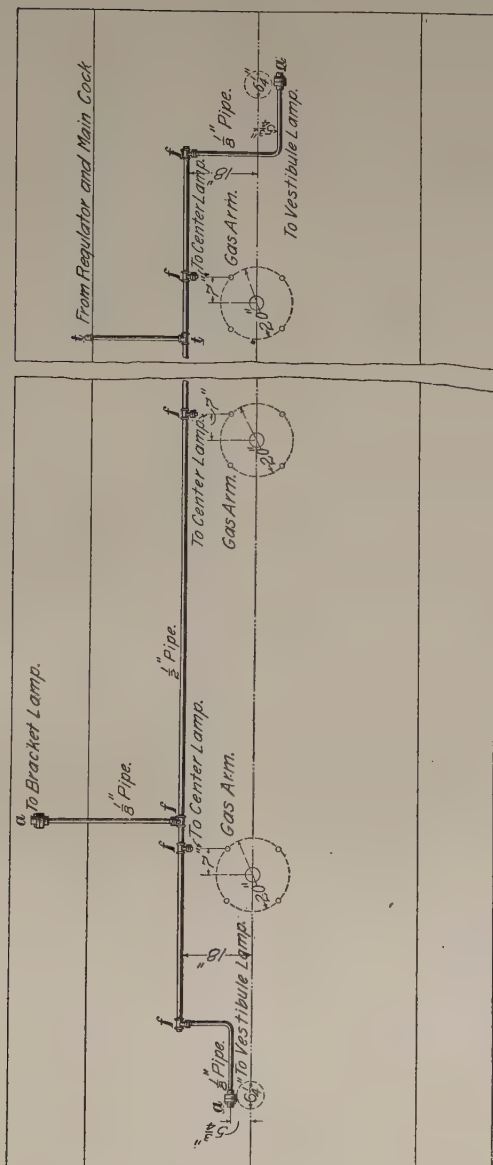

FIG 24
22. Roof Piping.—Fig. 24 is a plan of the roof, showing the piping. The pipe is carried along the roof about 18 inches from the center line. Flange **T**'s *f* are placed in this pipe line wherever required for the lamps; angle flanges *a* lead down from the $\frac{1}{8}$ -inch pipe to the bracket and vestibule lamps. This piping should be laid on hardwood blocks about $\frac{1}{4}$ inch thick, spaced 4 feet apart, everything being secured in place by tinned-iron straps, shown in Fig. 25, using 1-inch wood screws, passing through both strap and wood into the roof. A little thick paint should be put around each block so that no water may soak past the screw holes in the roof.
When vestibule lamps are used, it will be found advantageous to carry the roof pipe at the end of the car, in the manner shown in Fig. 24, so as to facilitate making connections with the lamp cocks. The $\frac{1}{8}$ -inch pipe leading from the main pipe to the vestibule and side bracket lamps should be strapped to the roof and soldered to the tin where it passes through.